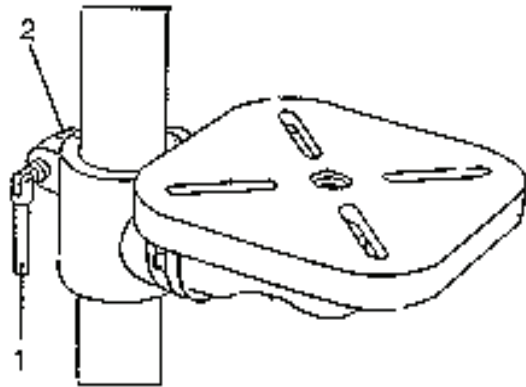

Fig. 8
10. Slide the column-locking lever (1) in the bench-fastening arm (2) (Fig. 8)